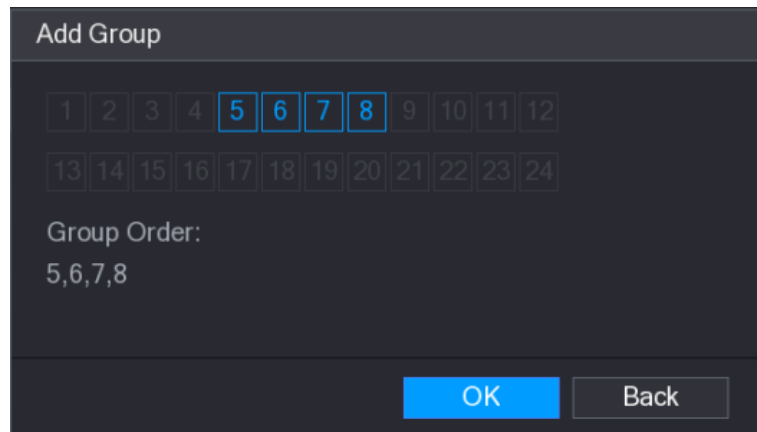

Figure 5-53
Step 2 Select the channels that you want to group for tour. See Figure 5-53.